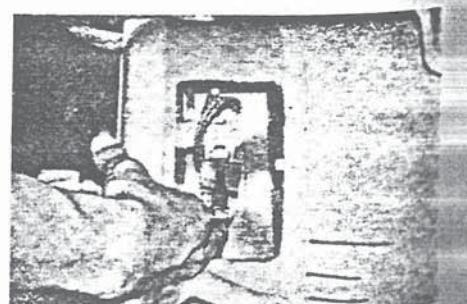

Fig. 8-6
- e) Wrap thick paper around the commutator surface to protect the commutator surface to protect the commutator against damage. (Fig. 8-6).